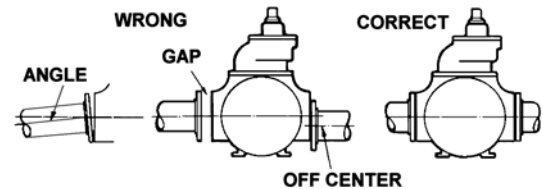

Figure 2
7. Check alignment of pipes to pump to avoid strains which might later cause misalignment. See Figure 2. Unbolt flanges or break union joints. Pipes should not spring away or drop down. After pump has been in operation for a week or two, completely recheck alignment.